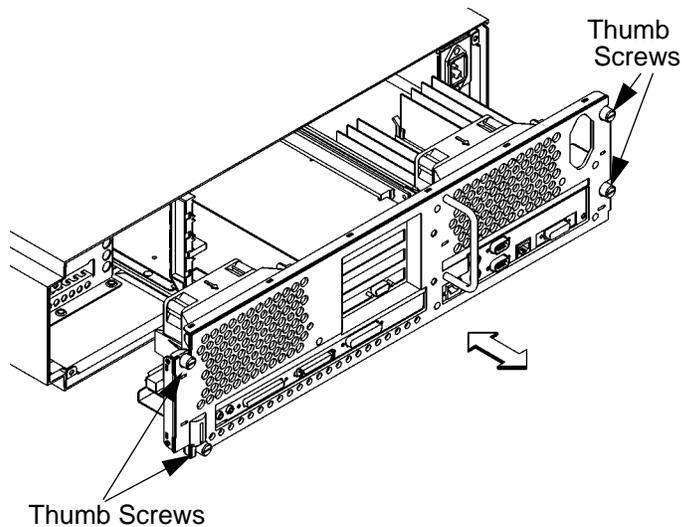

Figure 38
- 4 Completely loosen the four thumb screws on the rear of the system unit, as shown in Figure 38.
- 5 Place one hand on the top of the system unit and push, while pulling the handle on the rear panel with your other hand. See Figure 38.